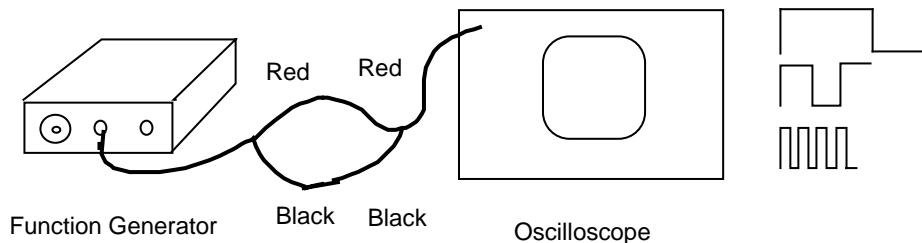

Figure 3. Observing the output of the square-wave generator.
- Adjust the oscilloscope to obtain each of the patterns shown in Figure 3.